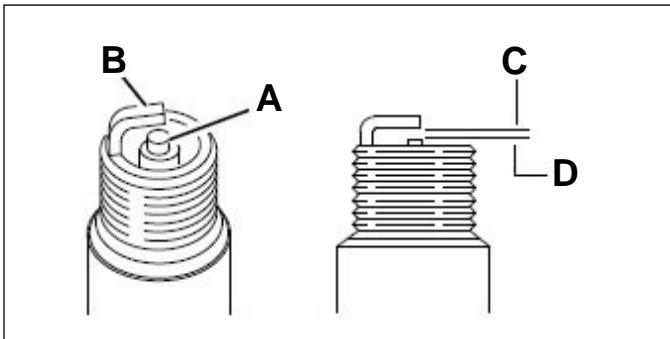

Fig. 004
5. Set the gap on the plug to 0.030" (0.76 mm) (Fig. 004).